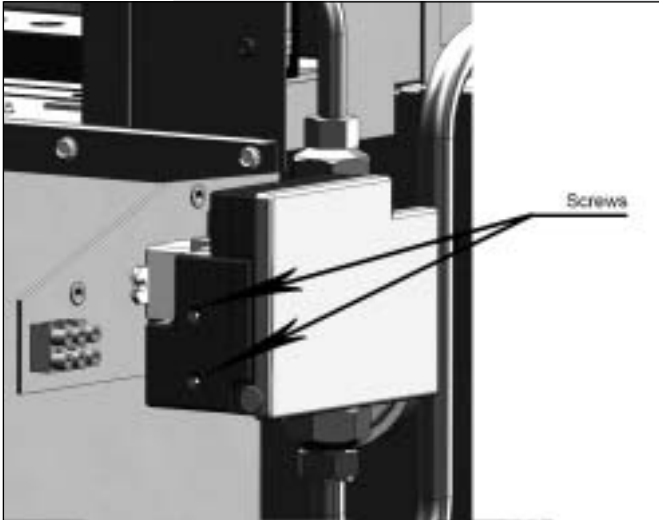

Fig. 15
- Take out the 2 screws of the cover on the automatic ignition sequence (see fig. 15)